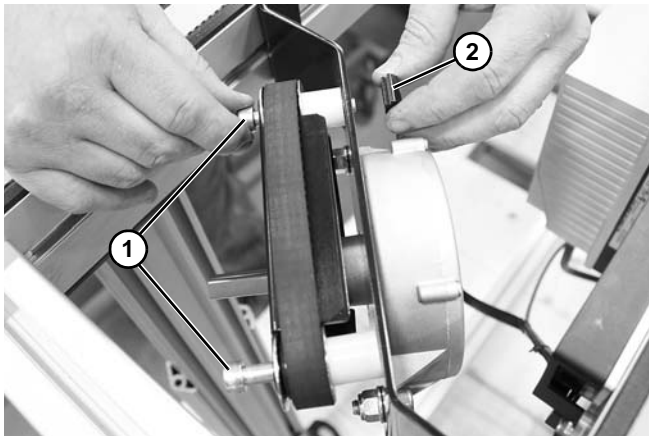

Figure 134
1. Loosen and remove socket head screws (**Figure 134, item 1**) from cam follower nuts (**Figure 134, item 2**).